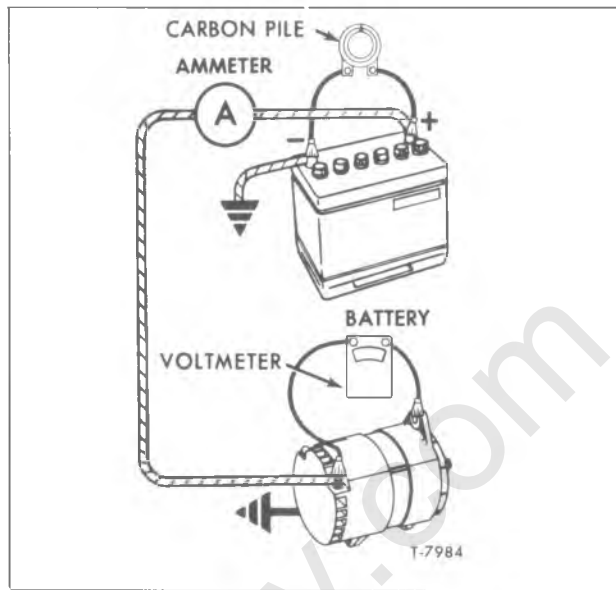

Figure 9—Connections for Testing 100-Amp. Integral Type Generator (Typical)
5. Referring to figure 9, connect a voltmeter from generator "BAT" terminal to ground on generator. A zero reading indicates an open between voltmeter connection and battery.
1. Make connections as shown in figure 9.